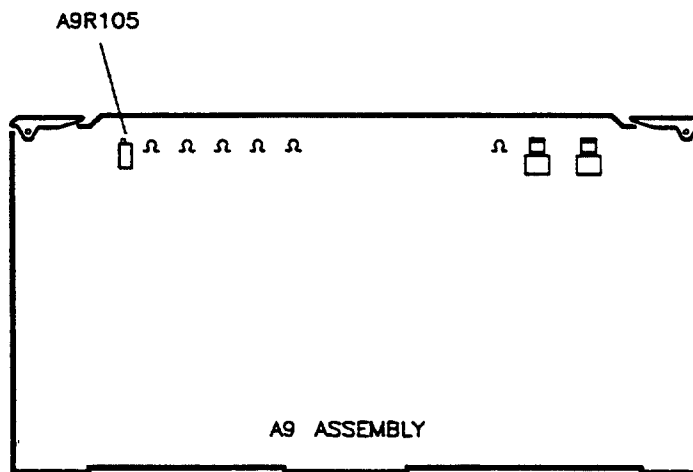

Figure 3-21. A9R105 Location
3. Adjust A9R105 MIN (see Figure 3-21) for -0.54 V DC.